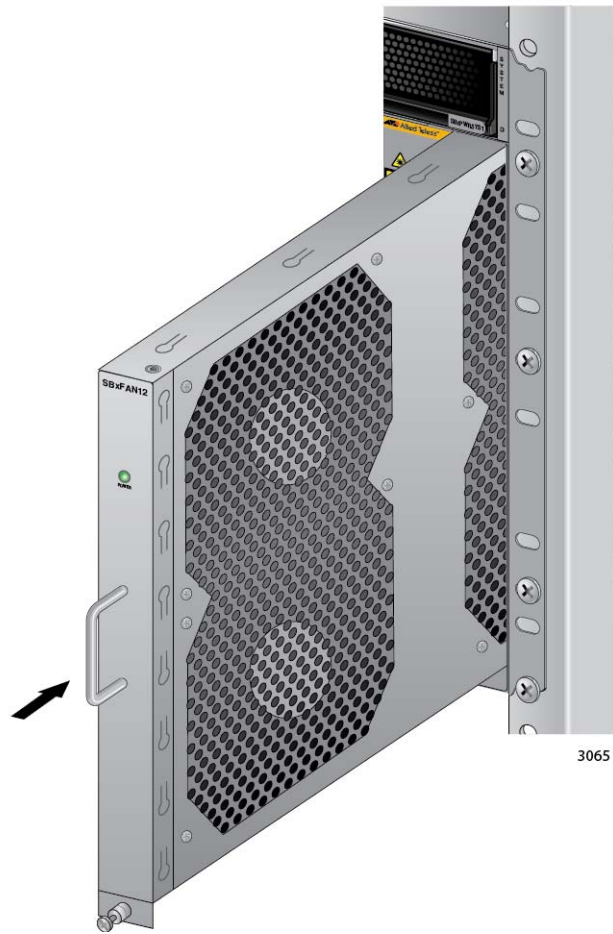

Figure 165. Installing a New AT-SBxFAN12 Fan Module
1. Orient the new module with the LED and module name on top and carefully slide the new module into the slot in the chassis. Refer to Figure 165 on page 259.